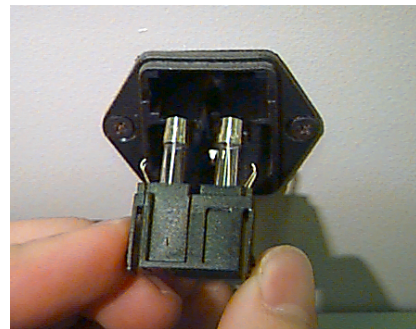

Figure 4-21
3. When the cover is unclipped, pull on the cover to remove the fuse holder (see Figure 4-21).